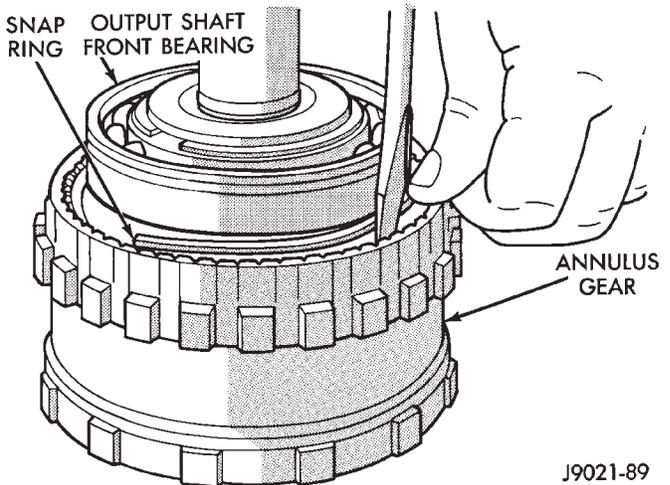

Fig. 236 Annulus Gear Installation
- (3) Install annulus gear on output shaft, if removed. Then install annulus gear retaining snap ring (Fig. 236).